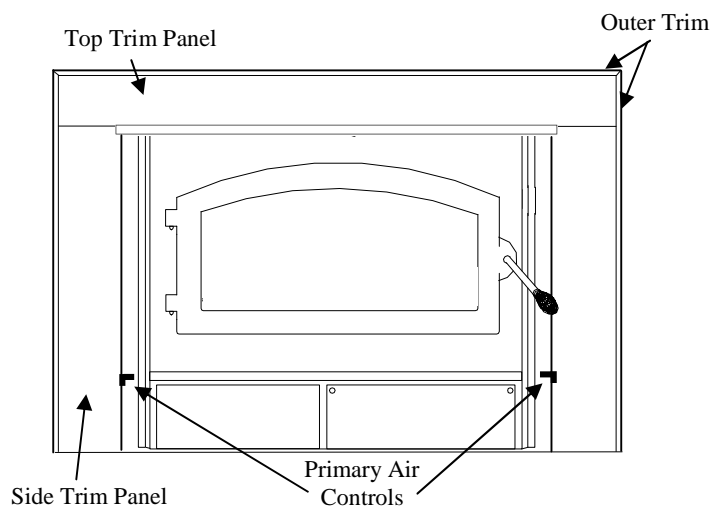

FIGURE 4
9. Obtain brass trim kit provided with insert kit and slip over top and sides of trim panels. Top ends of brass may need to be trimmed to fit (See Figure 4).
Primary Air Control: The primary air intake draft controls are located at right and left bottom side of hearth. It is operated by moving handle **in** to open (to allow air into firebox) or **out** (to control or close off) air into firebox. (See Figure 4).